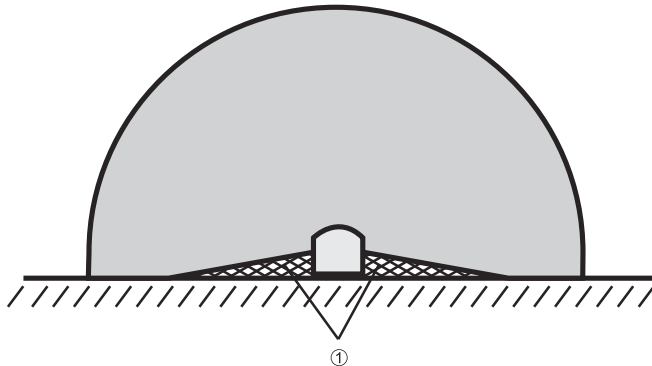

Figure 26: Example of mounting with hard guards
scanner (Figure 26) and such that standing in an unscanned area ② is not possible.